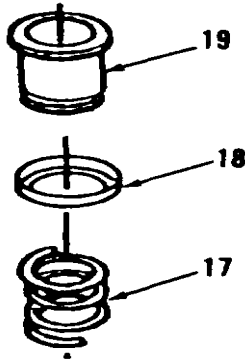

Figure 6-34.
- 8. Remove spring (17) and retainer (18) from valve (19, Figure 6-34).